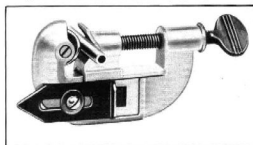

Fig. 7—Cutting Hydraulic Brake Tubing
1. Cut the tubing to the desired length, using tube cutter KMO3 to prevent flattening the tubing. Square off the end with a fine-cut mill file, then ream the sharp edges with the reamer blade provided on the tube cutter. (Fig. 7.)